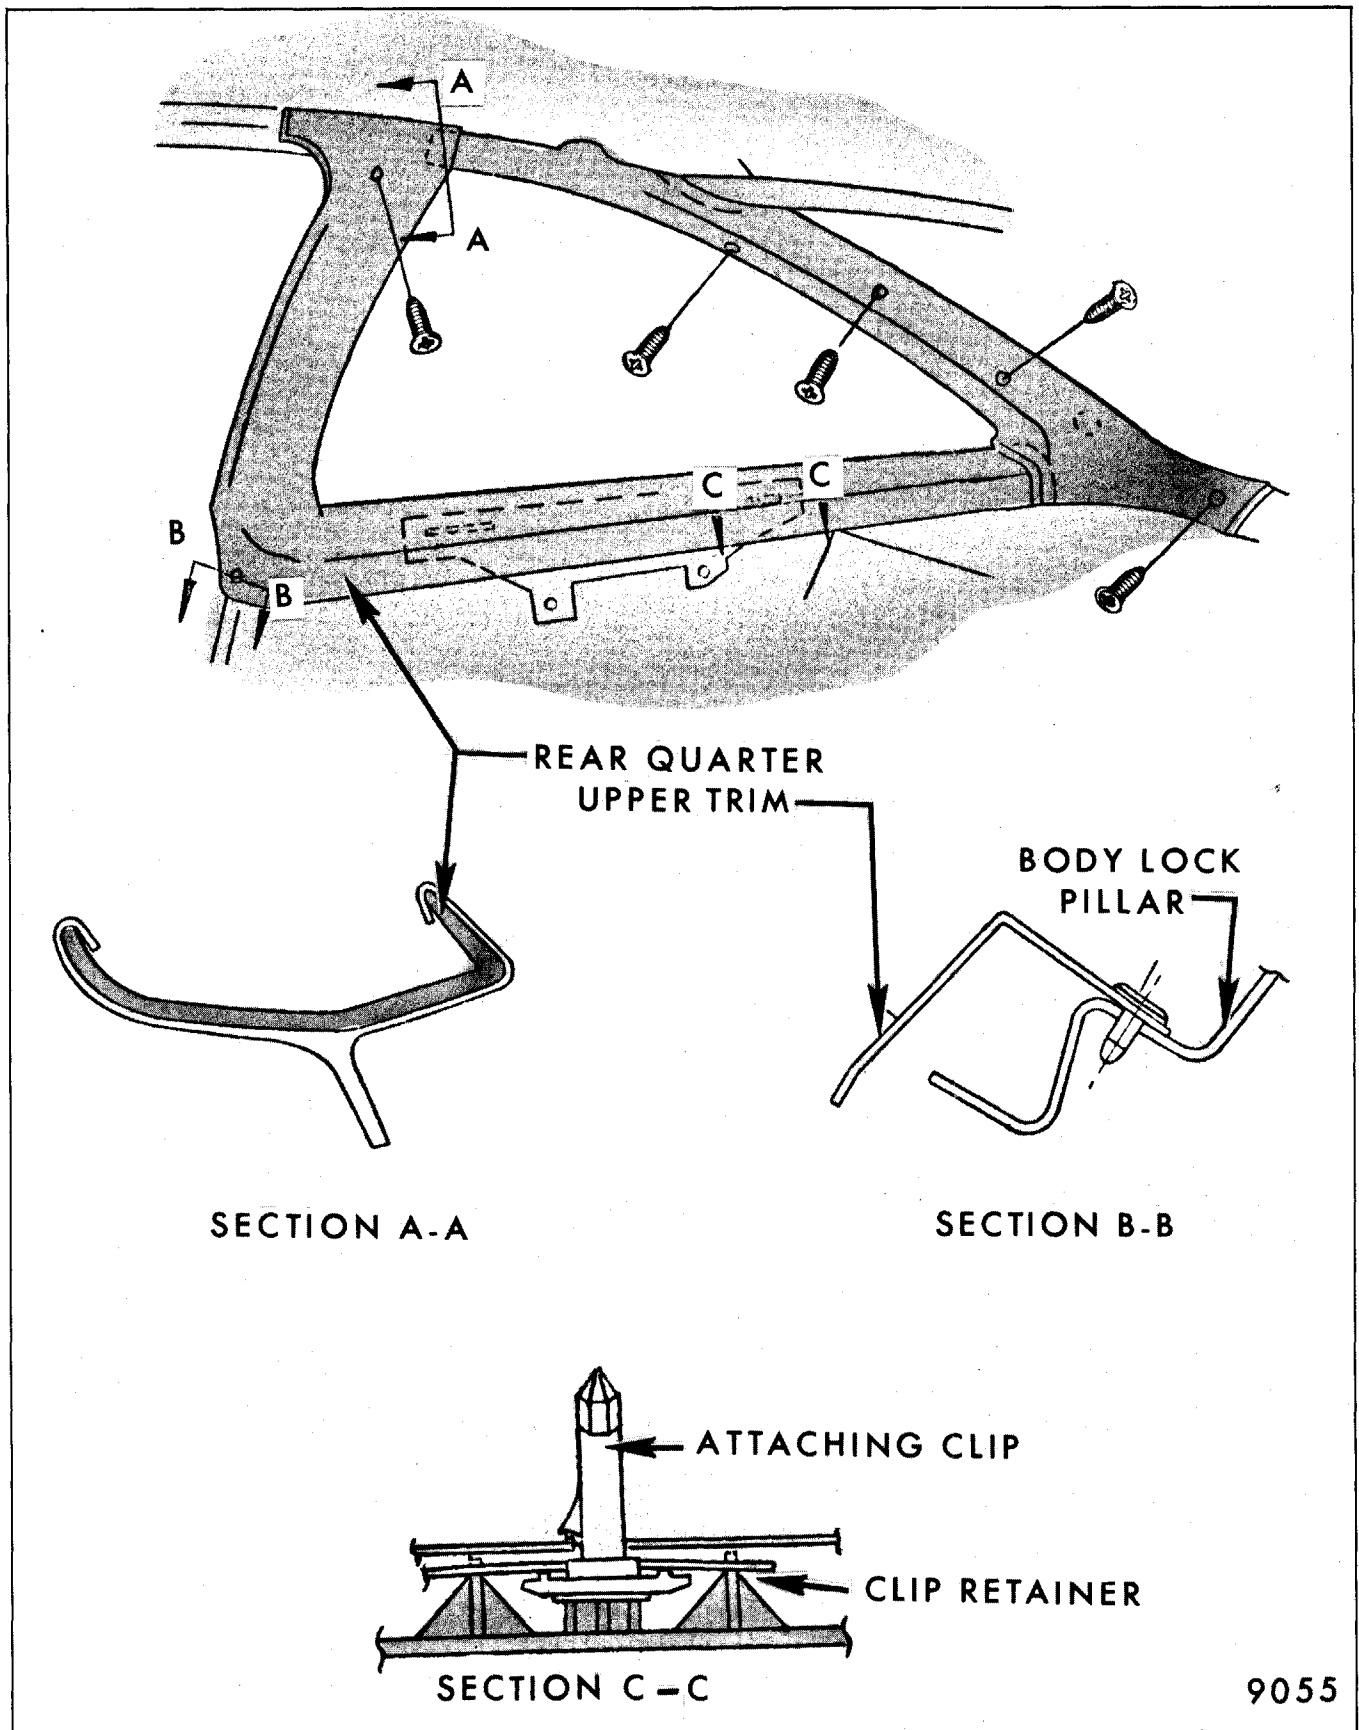

Fig. 6-13-Quarter Upper Trim Attachment "A-37" Styles
2. On "A-29 and 37" styles insert tool J-24416 or equivalent, between upper edge of trim and inner panel. Pry clip and molding inboard to remove (Fig. 6-13).
To remove clips at base of quarter window, lift quarter trim panel up at body lock pillar until first retaining clip is visible. Using a flat-bladed screwdriver, pry panel upward to separate from plastic retaining clip metal bracket (Fig. 6-13). To remove clip from quarter inner panel piercing, depress tab and pull upward with pliers.